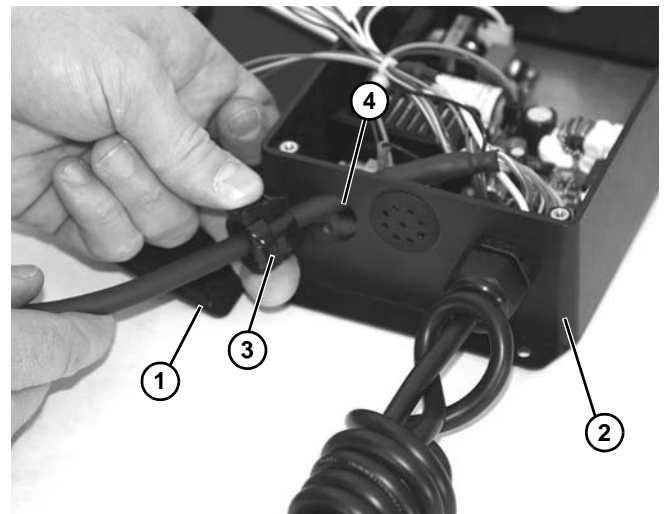

Figure 27
2. Remove four screws and cover (Figure 27, item 1) from controller (Figure 27, item 2).
3. Pull out cord retainer (Figure 27, item 3) from controller opening (Figure 27, item 4).